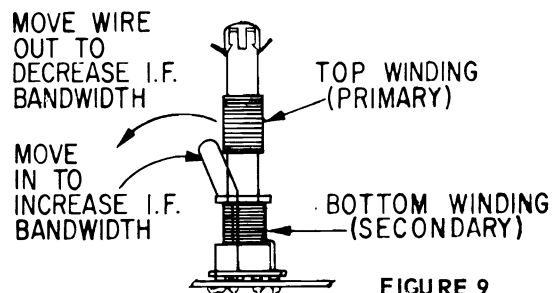

FIGURE 9
1. To narrow the I.F. response curve, pull the loop away from the primary of T3 (top). Repeat steps 2 through 5 of the Video I.F. Alignment. See Figure 9.
2. To broaden the I.F. response curve, press the loop toward the primary of T3 (top). Repeat steps 2 through 5 of the Video I.F. Alignment. See Figure 9.